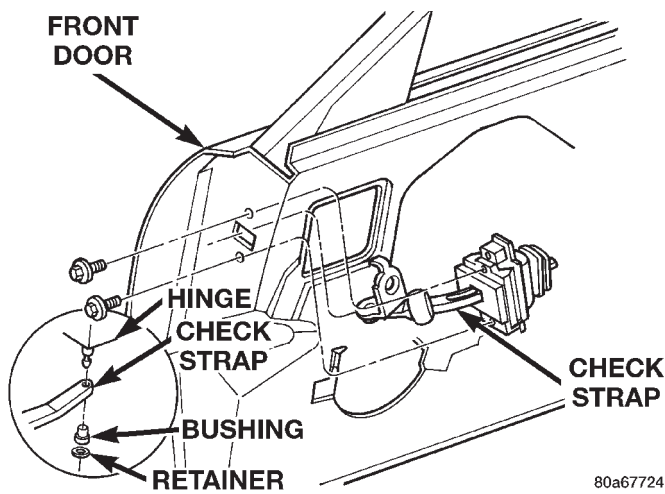

Fig. 21 Front Door Check Strap
- (1) Close door glass.
- (2) Remove door trim panel.
- (3) Remove bolts holding check strap to door end frame.
- (4) Remove retainer holding check strap to door hinge.
- (5) Disengage check strap from pin on upper door hinge.
- (6) Separate check strap from vehicle (Fig. 21).